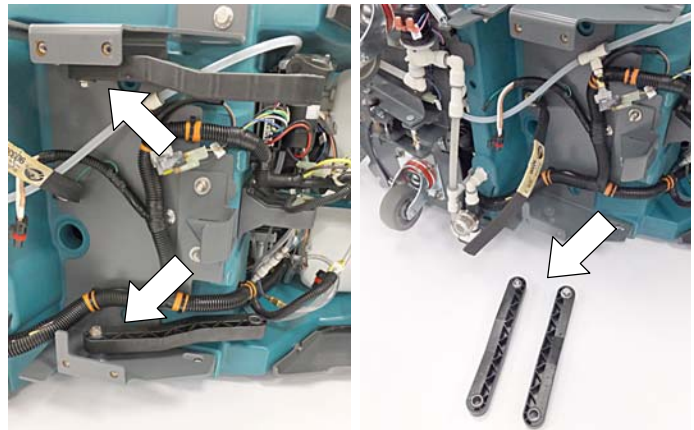

Fig. 4
4. Remove the two plastic lift arms from machine (Figure 4).